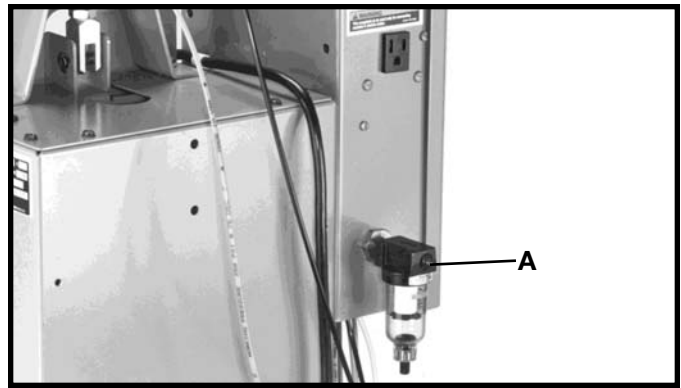

Fig. 43
A 1/4" female pipe thread (A) Fig. 43, is provided on the air filter for connecting the air line to the machine. An air supply of 90 psi is recommended for best results and this air supply must not exceed 125 psi.